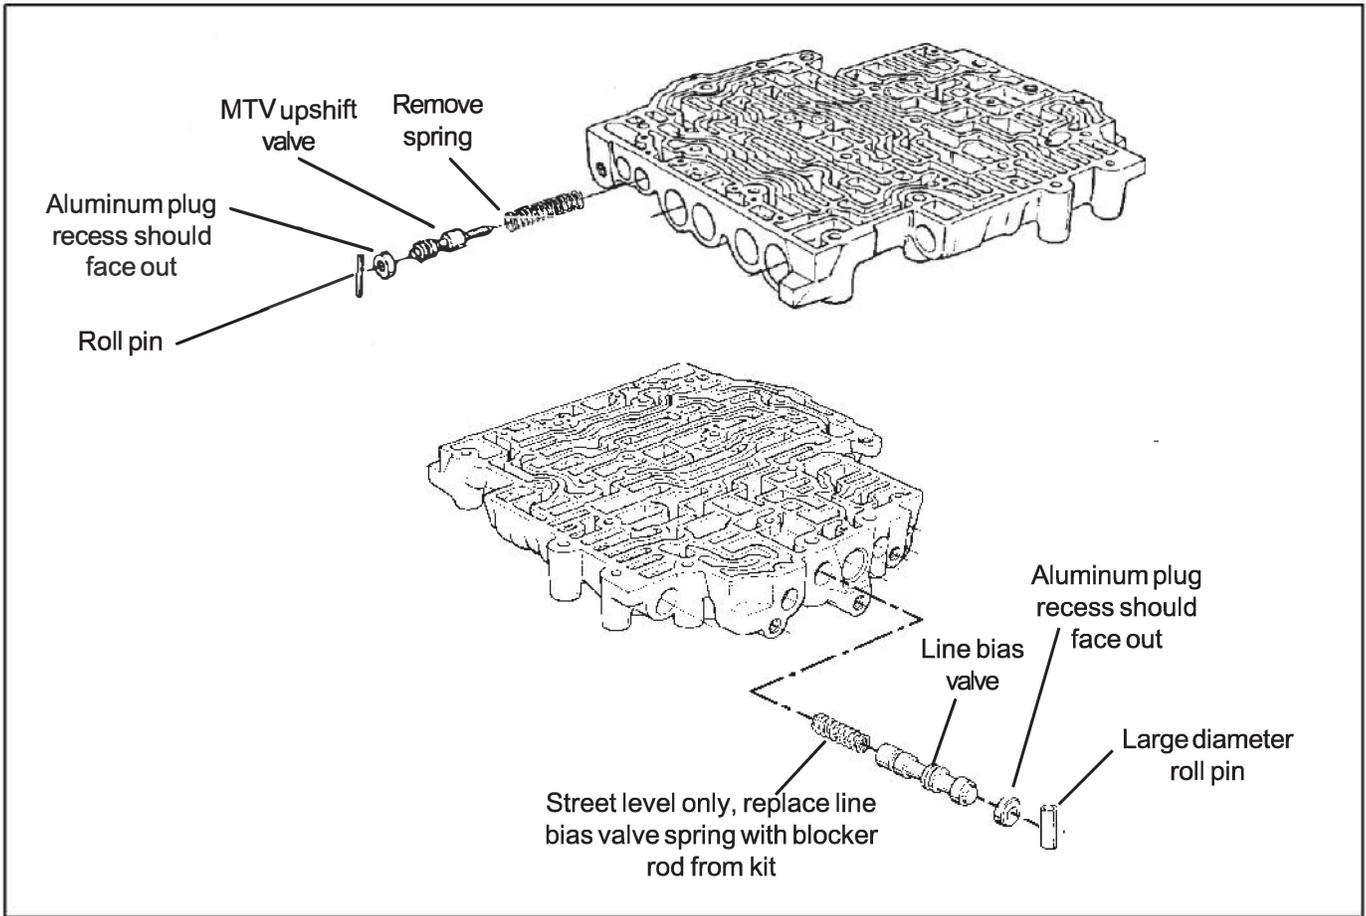

Figure 5
**STEP 8. Heavy Duty and Street; MTV upshift valve (See Fig. 5.)**
Compress and remove the larger roll pin retaining the line bias valve (**See Fig. 5.**) Take care to not distort the roll pin more than is required to remove it. Remove the aluminum plug, valve and spring from bore. The spring will not be re used. Insert the blocker rod from the kit into the bore. Install the valve and aluminum plug as removed. If the aluminum plug extends into the roll pin hole, remove the blocker rod and grind or file a small amount from either end of the blocker rod until the aluminum plug clears the roll pin hole when all parts are installed.